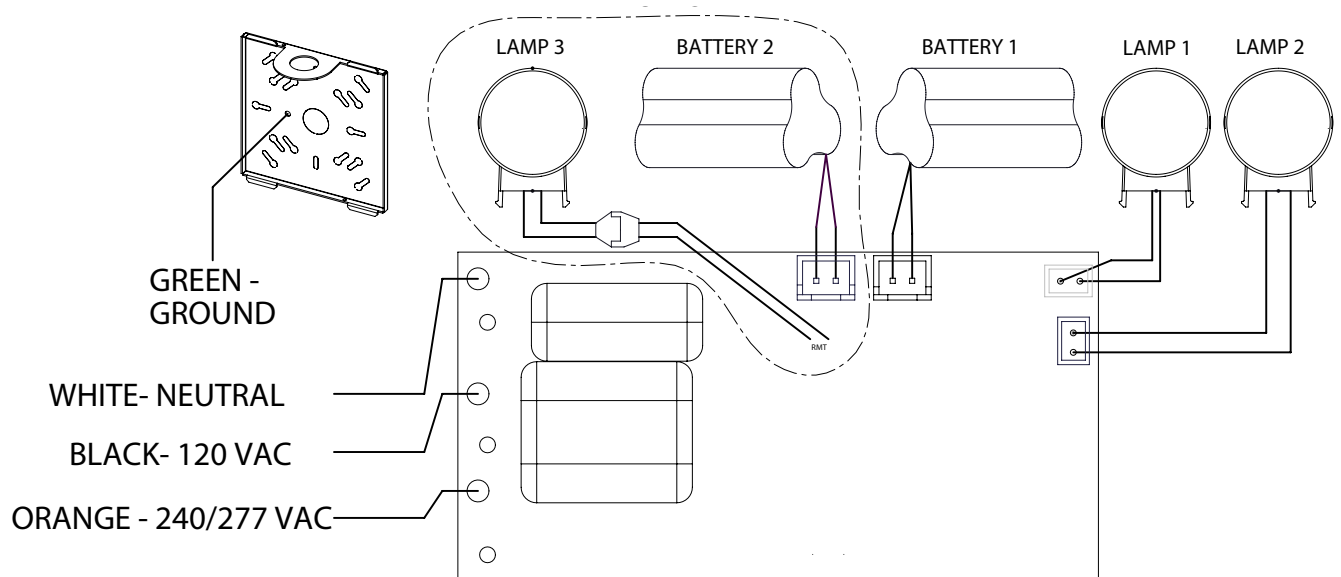

Figure 4
6. Connect power supply and ground in accordance with local codes. Wire connections as follows: 240/277VAC line to Orange lead or 120V line to Black lead; Neutral to white lead. Ground to Green wire; Cap unused line lead. (See Figure 4)
8. Connect power supply and ground in accordance with local codes. Wire connections as follows: 240/277VAC line to Orange lead or 120V line to Black lead; Neutral to white lead. Ground to Green wire; Cap unused line lead. (See Figure 4)